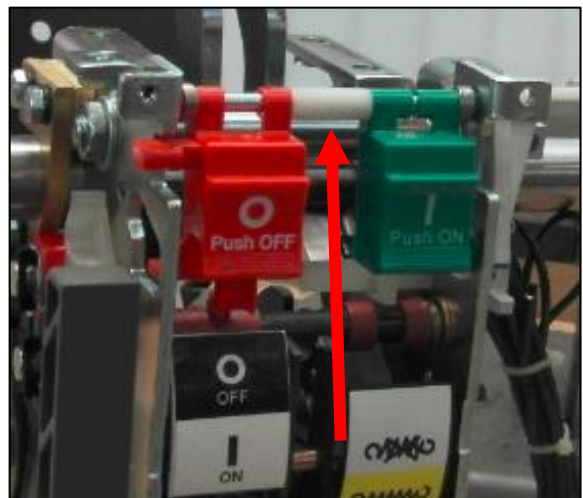

Figure 15 - Plastic tube
7. Apply grease Molykote 111 or similar on the pull-rod pin-surface as shown in Figure 15